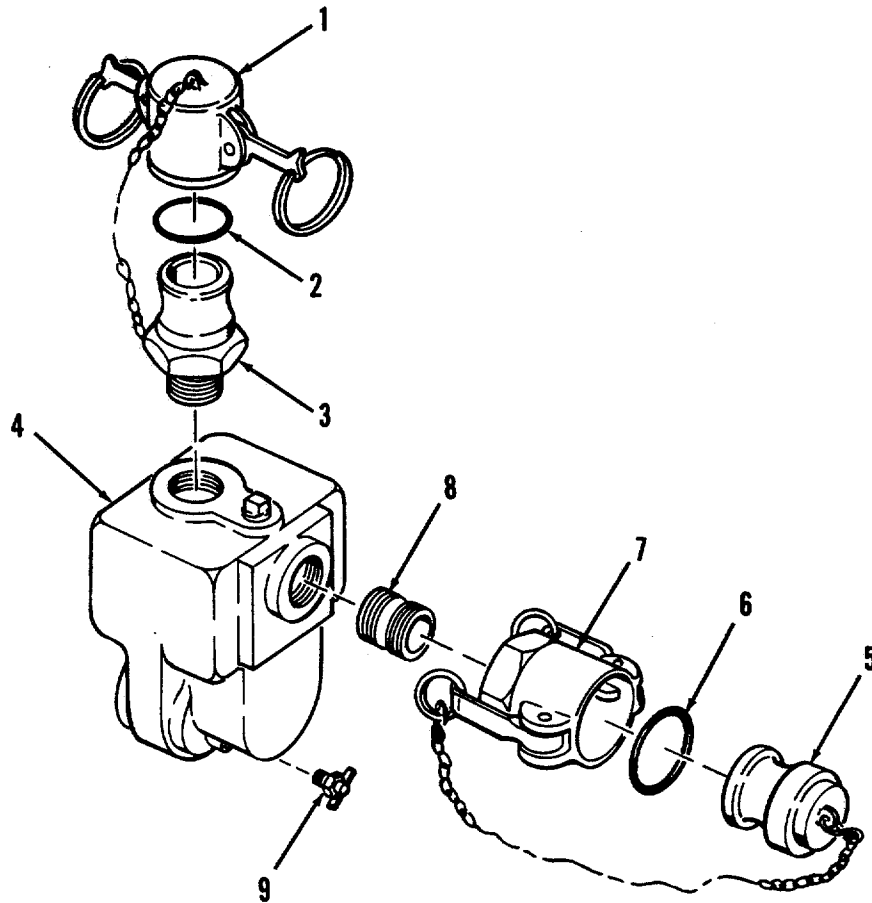

Figure 5-2. Pump Assembly Repair.
- (4) Loosen and remove impeller (6) by striking it along the periphery in a counter-clockwise manner and remove shims (7) and (8).
- (5) Remove two bolts (12), two lock washers (13), pump side housing (3), rotating portion of seal element (9), and non-rotating portion of seal element (10) from shaft of motor (11).
- (6) Remove slinger (14) from motor (11).
**b. Disassembly.** (Refer to Figure 5-2).
- (1) Remove dust cap (1), gasket (2), and coupling half (3) from pump (4).
- (2) Remove dust plug (5), gasket (6), coupling half (7), and pipe nipple (8) from pump (4).
- (3) Remove drain cock (9) from pump (4).
- (1) Inspect all metal parts for cracks, corrosion, or broken fittings.
- (2) Examine pump seals and packings for cracks or damage.
**f. Assembly.** (Refer to Figure 5-2).